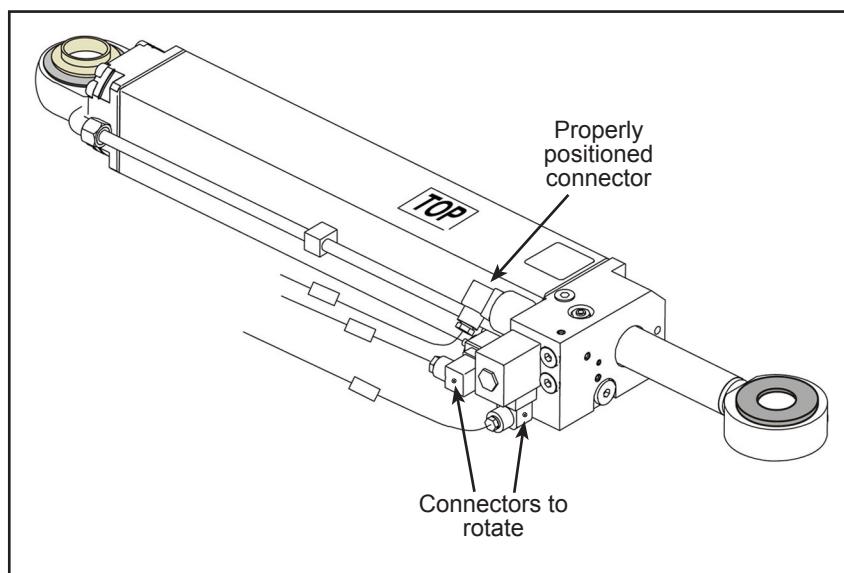

Figure 1 - Curbside Damping Cylinder, Location of the Connectors
- 1.1. Disconnect one of the damping cylinder connector to rotate by loosening the retaining screw. See Figure 1.